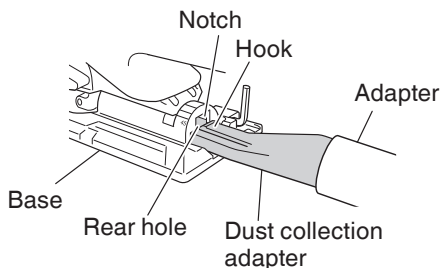

Fig. 20
- (5) Insert dust collection adapter into the rear hole of the base until the hook catches in the notch. (Fig. 20)
- (6) Press the hook to remove the dust collection adapter.